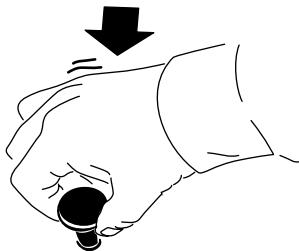

Figure 13
- Push in the switch (Figure 13) to disengage the PTO or disable the attachment